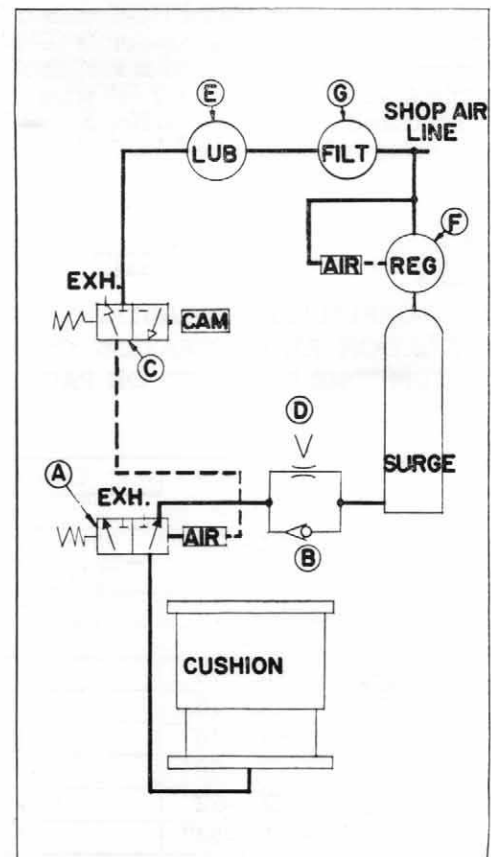

Fig. No. 47
Figure No. 47 shows the basic control circuit. For the greater part of the stroke or draw the cushion operates in normal fashion by emitting air through the air control valve (A) and check valve (B) to the surge tank. A cam-operated air valve (C) is attached to the press so that it will be actuated by the press ram or other moving press component (i. e., crank) at the bottom of the down stroke. This valve is connected to the air control valve (A) and when actuated causes the cushion air to be exhausted. The absence of pressurized air in the cushion allows it to stay down.